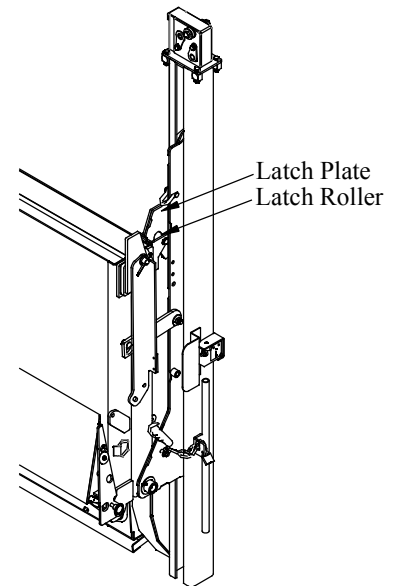

Figure 4
28. **Raise** the liftgate until the platform is folded and the latch rollers are locked in the latch plates (*Figure 4*).